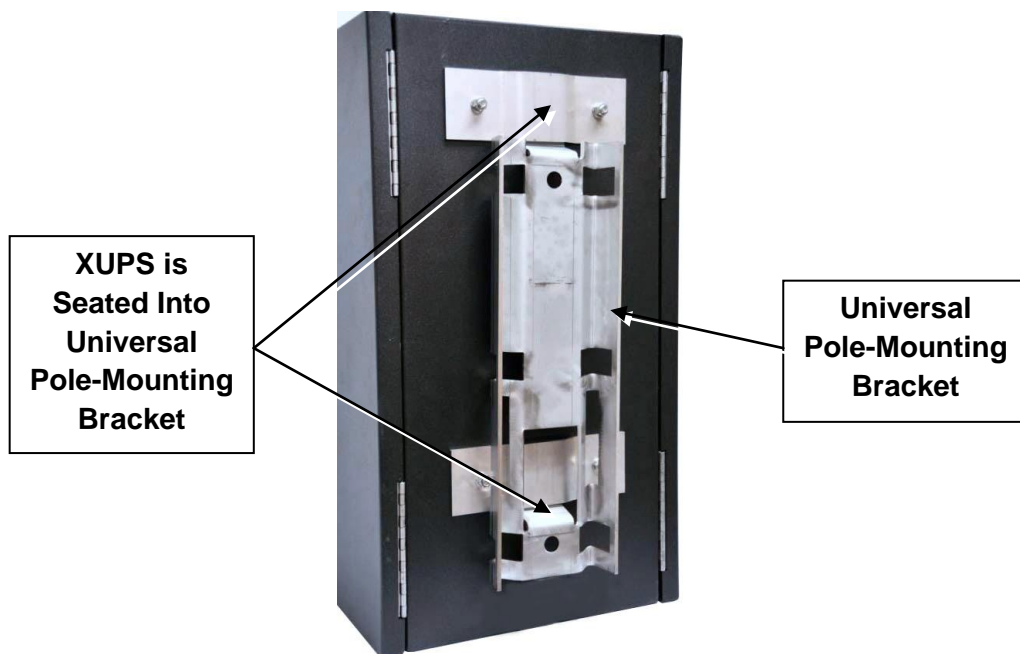

Figure 14: Universal Pole-Mounting Bracket
3.42 Check to ensure that the XUPS is securely seated all the way into the universal pole mounting bracket. See Figure 14.